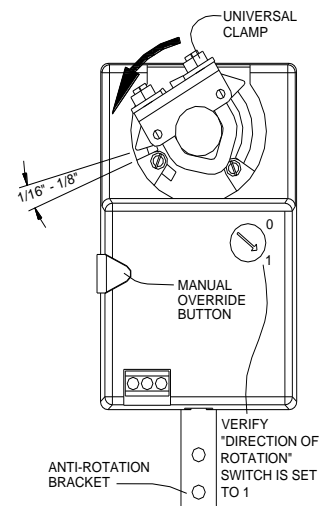

Figure 2
3. With the manual override button depressed, rotate actuator clamp counter clockwise to about 1/16" - 1/8" between actuator stop and clamp (See Figure 2). Slide actuator over shaft and finger-tighten nuts.